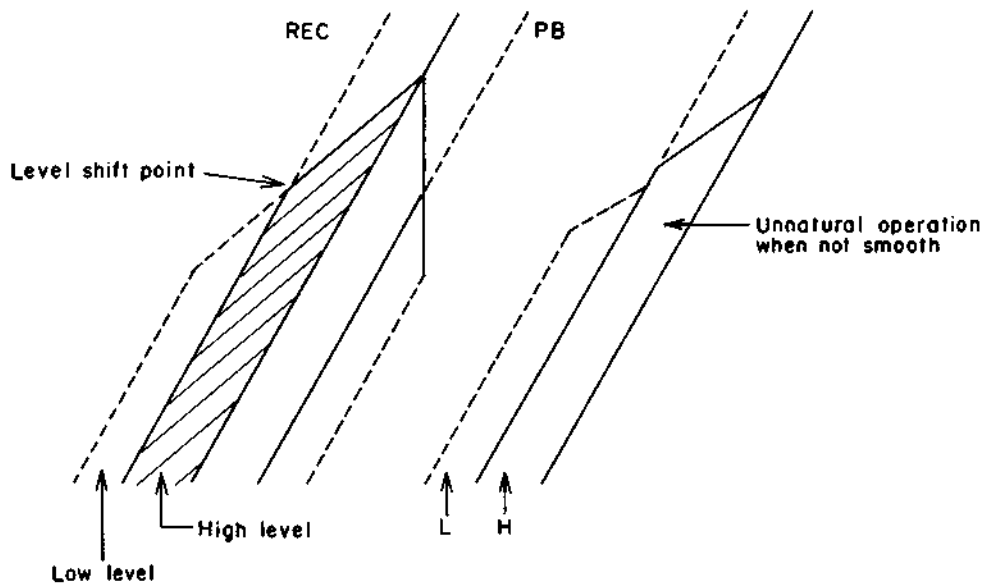

Fig. 16
- 3) TR12 and 13: Because Dolby C-type consists of two stages, high level stage and low level stage as shown in Fig. 16, the operating point must be smoothly switched over, otherwise abnormal operation will occur. For this reason, a close coupling circuit consisting of TR12 and 13 is used to make the operation smooth.